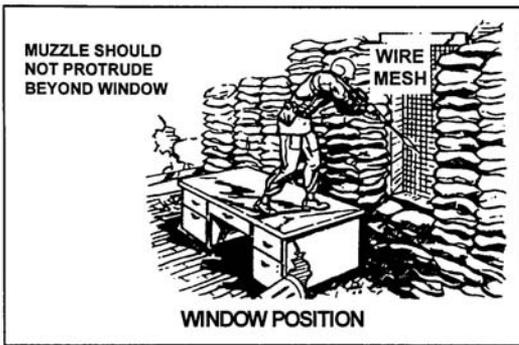

Figure 071-326-0550-1. Barricaded window
a. Barricade windows. Improve window firing positions by barricading around the windows (figure 071-326-0550-1). You can cover the window completely, except for a small hole to fire through. When barricading windows—